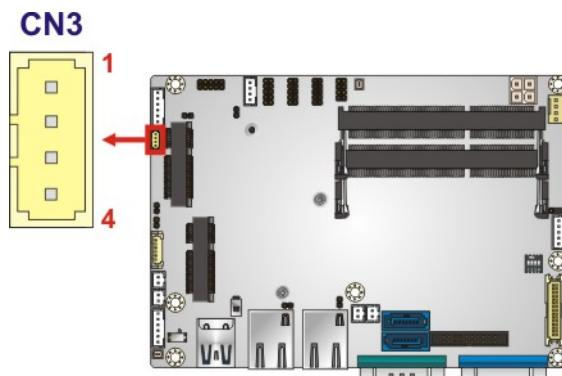

Figure 3-24: SMBus Connector Location
**CN Location:** See Figure 3-24